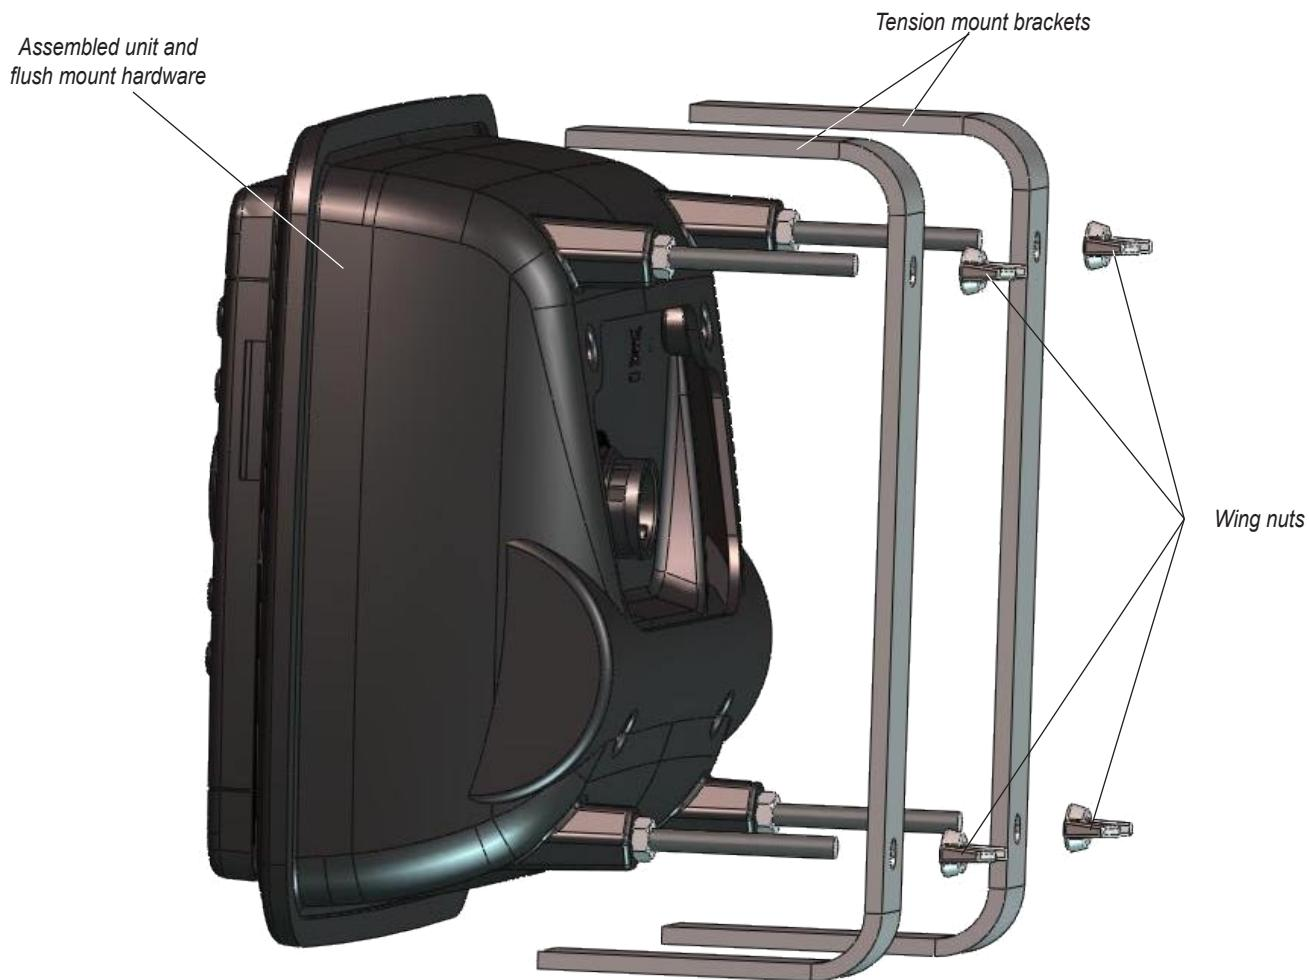

Figure 2
3. Install the unit in the opening (see Figure 2):
- Slide the tension mount arms onto the hex bolts and secure them with the (4) wing nuts.
- Tighten the (4) wing nuts to secure the unit housing to the mounting surface. Be careful not to overtighten.